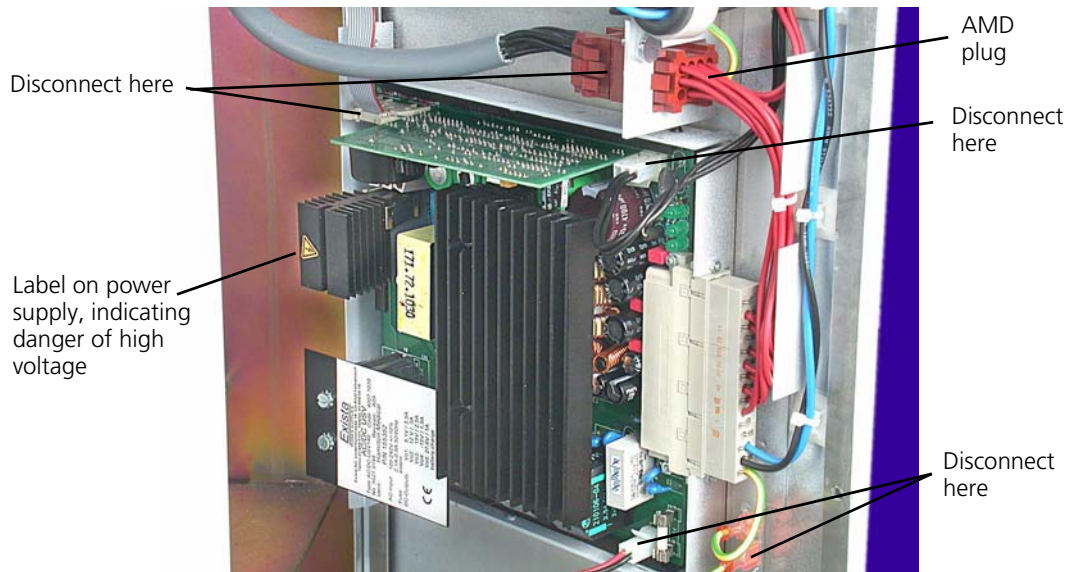

Figure 11-199. Cable connections you must remove
2. Remove from the power supply board all cables connecting it to GALILEO. (Figure 11-199.)